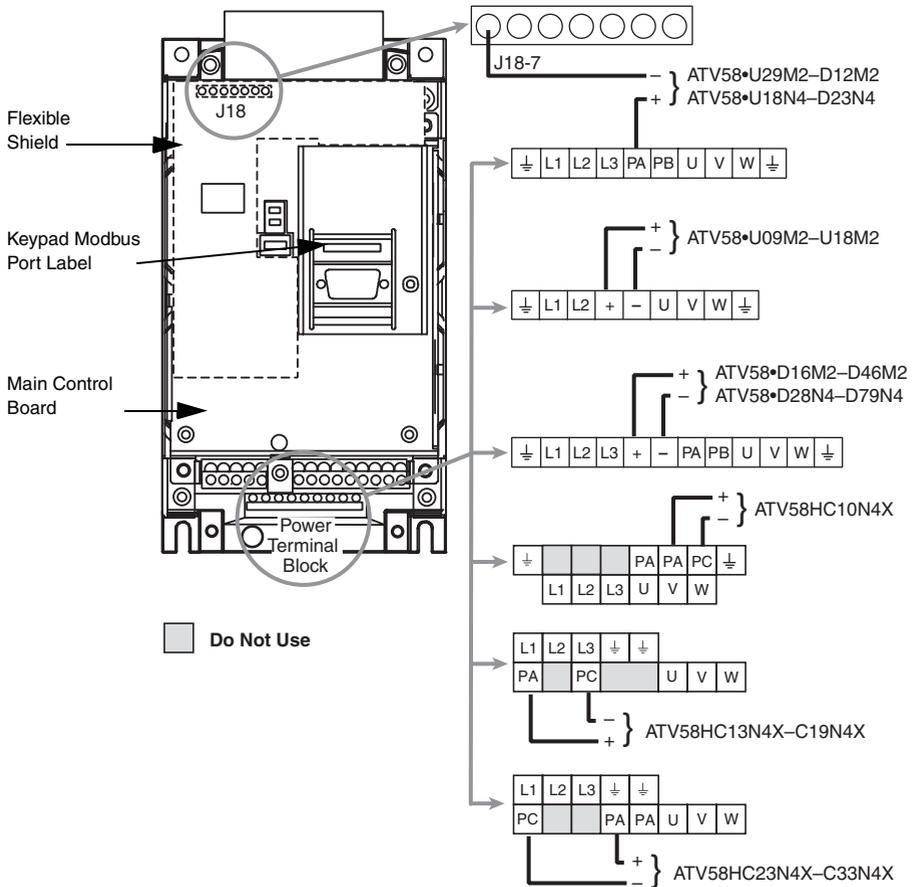

Figure 2: DC Bus Voltage Measurement Point Locations (ATV58HU09M2 shown)
The LonWorks to Modbus module is compatible with ATV58 *TRX* drive controllers loaded with firmware version V3.1 IE16 and later. Kilowatt hours and total run time values are available with ATV58 *TRX* drive controller firmware version 4.0 and later. The label indicating the firmware version is located on the main control board just above the keypad Modbus port (see Figure 2 on page 14).
The DC bus voltage level is determined by monitoring the (+) and (–) measurement points. Their location varies by drive controller model number as listed in Table 1 and shown in Figure 2 on page 14. The drive controller model number is listed on the nameplate.
3. Read the model number of the drive controller from the nameplate and identify the corresponding (+) and (-) measurement points from Table 1 and Figure 2.
- If the ATV58 *TRX* drive controller is not supplied with a Modbus option card, connect the 9-pin Sub-D connector on the Modbus cable to the keypad Modbus port on the drive controller. Refer to Figure 2 on page 14 for the location of the keypad Modbus port. Make make this connection after the drive controller configuration has been completed. See "Section 4: ATV58 *TRX* Drive Controller Configuration" on page 22.